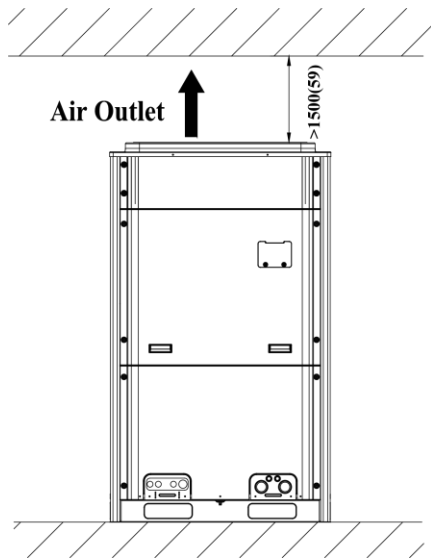
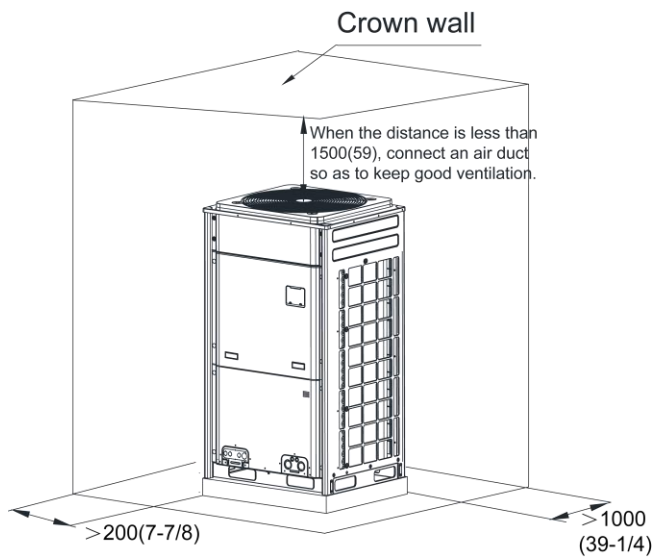

Fig.3.2.4
Fig.3.2.5
3.2.2 When there is wall (or similar obstruction) above the unit, keep the distance between the unit top and the wall at least 3000mm(118-1/8in.) or above. When the unit is located in a totally open space with no obstructions in four directions, keep the distance between the unit top and wall at least 1500mm(59in.) or above (See Fig. 3.2.4). When space is limited within 1500mm(59in.) or the unit is not set in an open space, air outlet pipe is required to be installed in order to keep good ventilation (See Fig. 3.2.5).